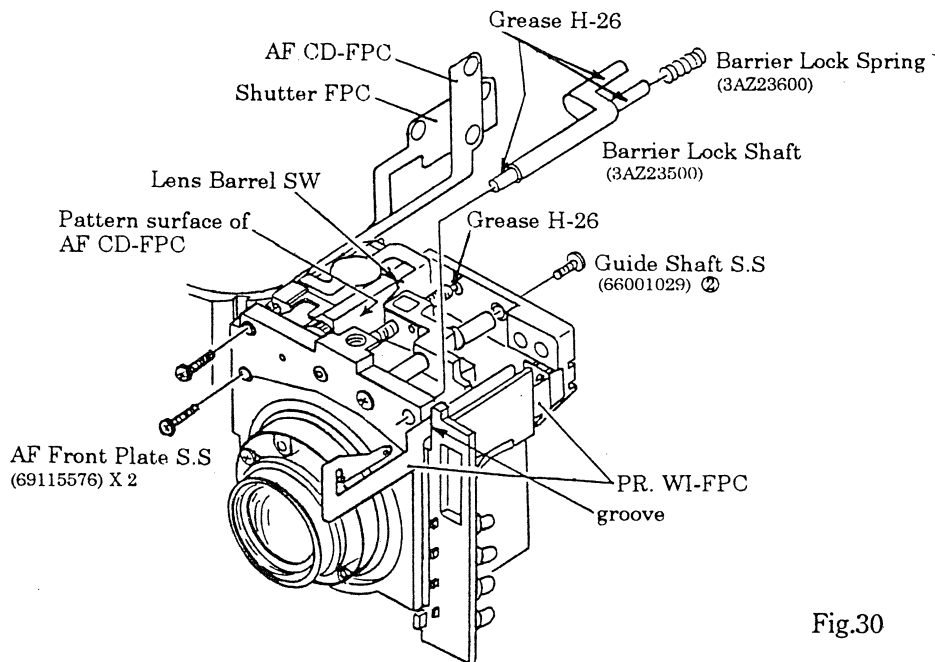

Fig.30
- 17) Apply grease H-26 to the three specified areas on the Barrier Lock Shaft (3AZ23500), and then install the Barrier Lock Spring (3AZ23600) in it. (See Fig.30)
- 21) Make sure that the AF Front Plate and the AF Motor Holder are in close contact with each other. (Temporary tighten the Guide Shaft Setscrews (66001029) ② . Tighten firmly the Guide Shaft Setscrew (66001029) ① described in the step 15) above. Tighten the Guide Shaft Setscrew (66601029) ② again firmly.